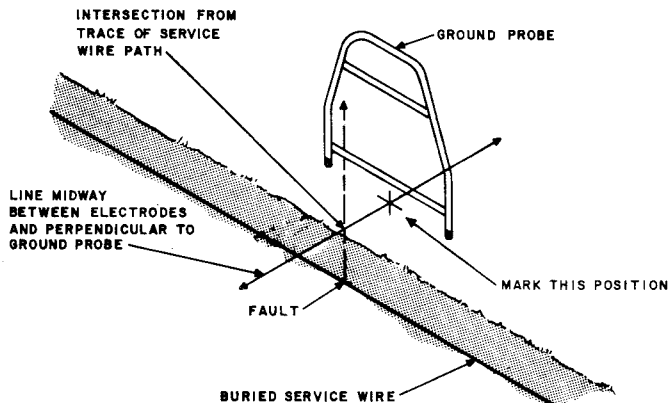

Fig. 11—Null Method to Determine Location of Fault
4.18 The fault is pinpointed at the intersection of the line perpendicular to the ground probe, which was determined in paragraph 4.14 and the service wire path, traced in paragraph 4.17 (Fig. 11).